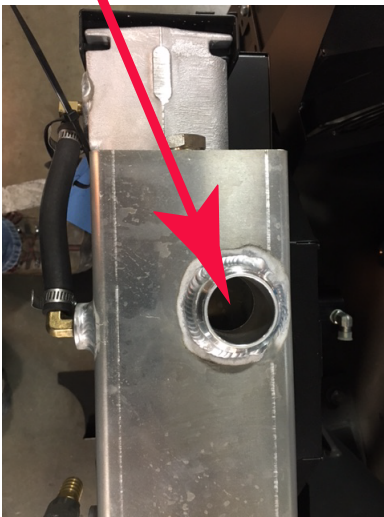

Figure 7. Adding Engine Coolant
4. Pour engine coolant (Dexcool or long life coolant only) slowly into the radiator (Figure 7) until it is at full level as seen through sight glass.